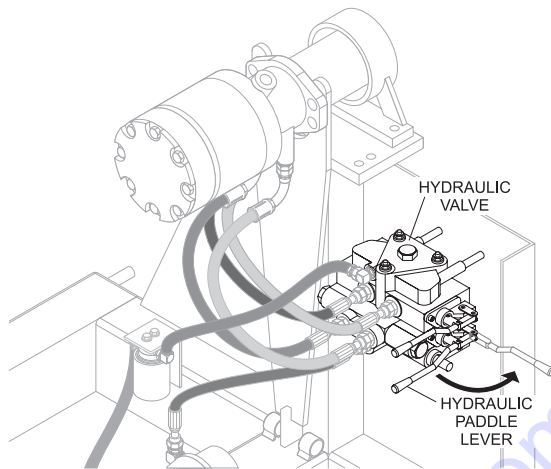

Figure 20. Hydraulic Paddle Lever
1. On the hydraulic valve, push lever inward (Figure 20) for clockwise mixing rotation of blades.